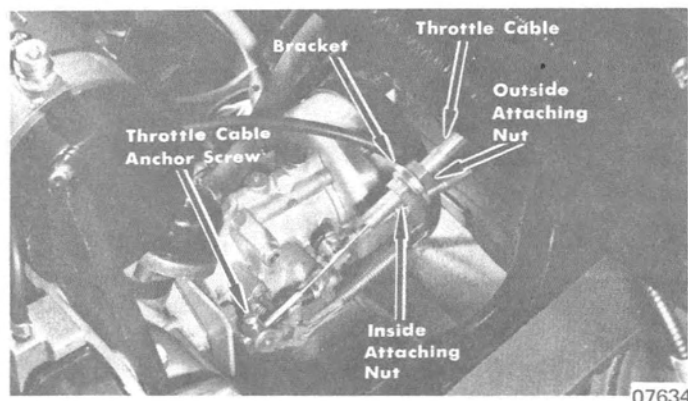

Figure 1. Carburetor - Mark I
2. Loosen throttle cable anchor screw(s) on carburetor linkage. (Figure 1, 2 or 2A)
3. Remove "carburetor side" (inside) attaching nut(s) from throttle cable. (Figure 1, 2 or 2A)